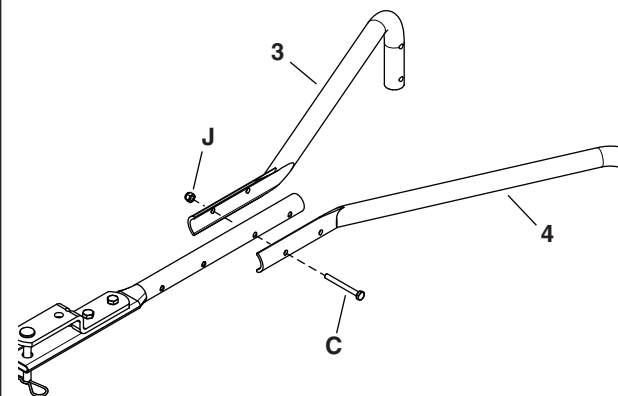

Figure 2
STEP 2: (SEE FIGURE 2)
- Attach the hitch support tubes (3), and (4) to the hitch tube using one 1/4" x 2" hex bolt (C) and 1/4" nylock nut (J). **Do not tighten completely.**